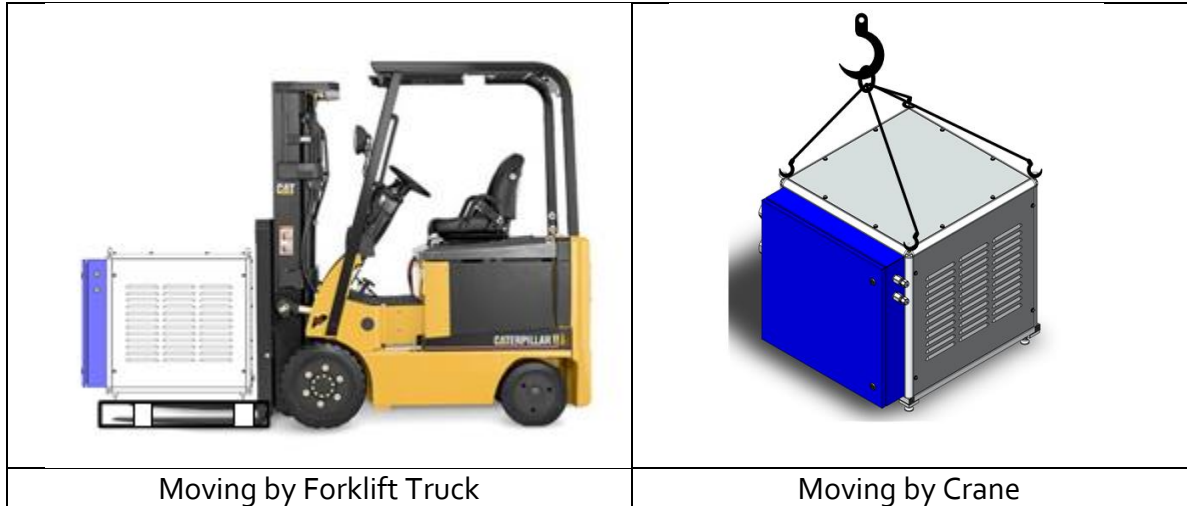

FIGURE 13: MOVING THE CUBE
1. The CUBE can be transported into location by forklift truck or by crane, see Figure 13.